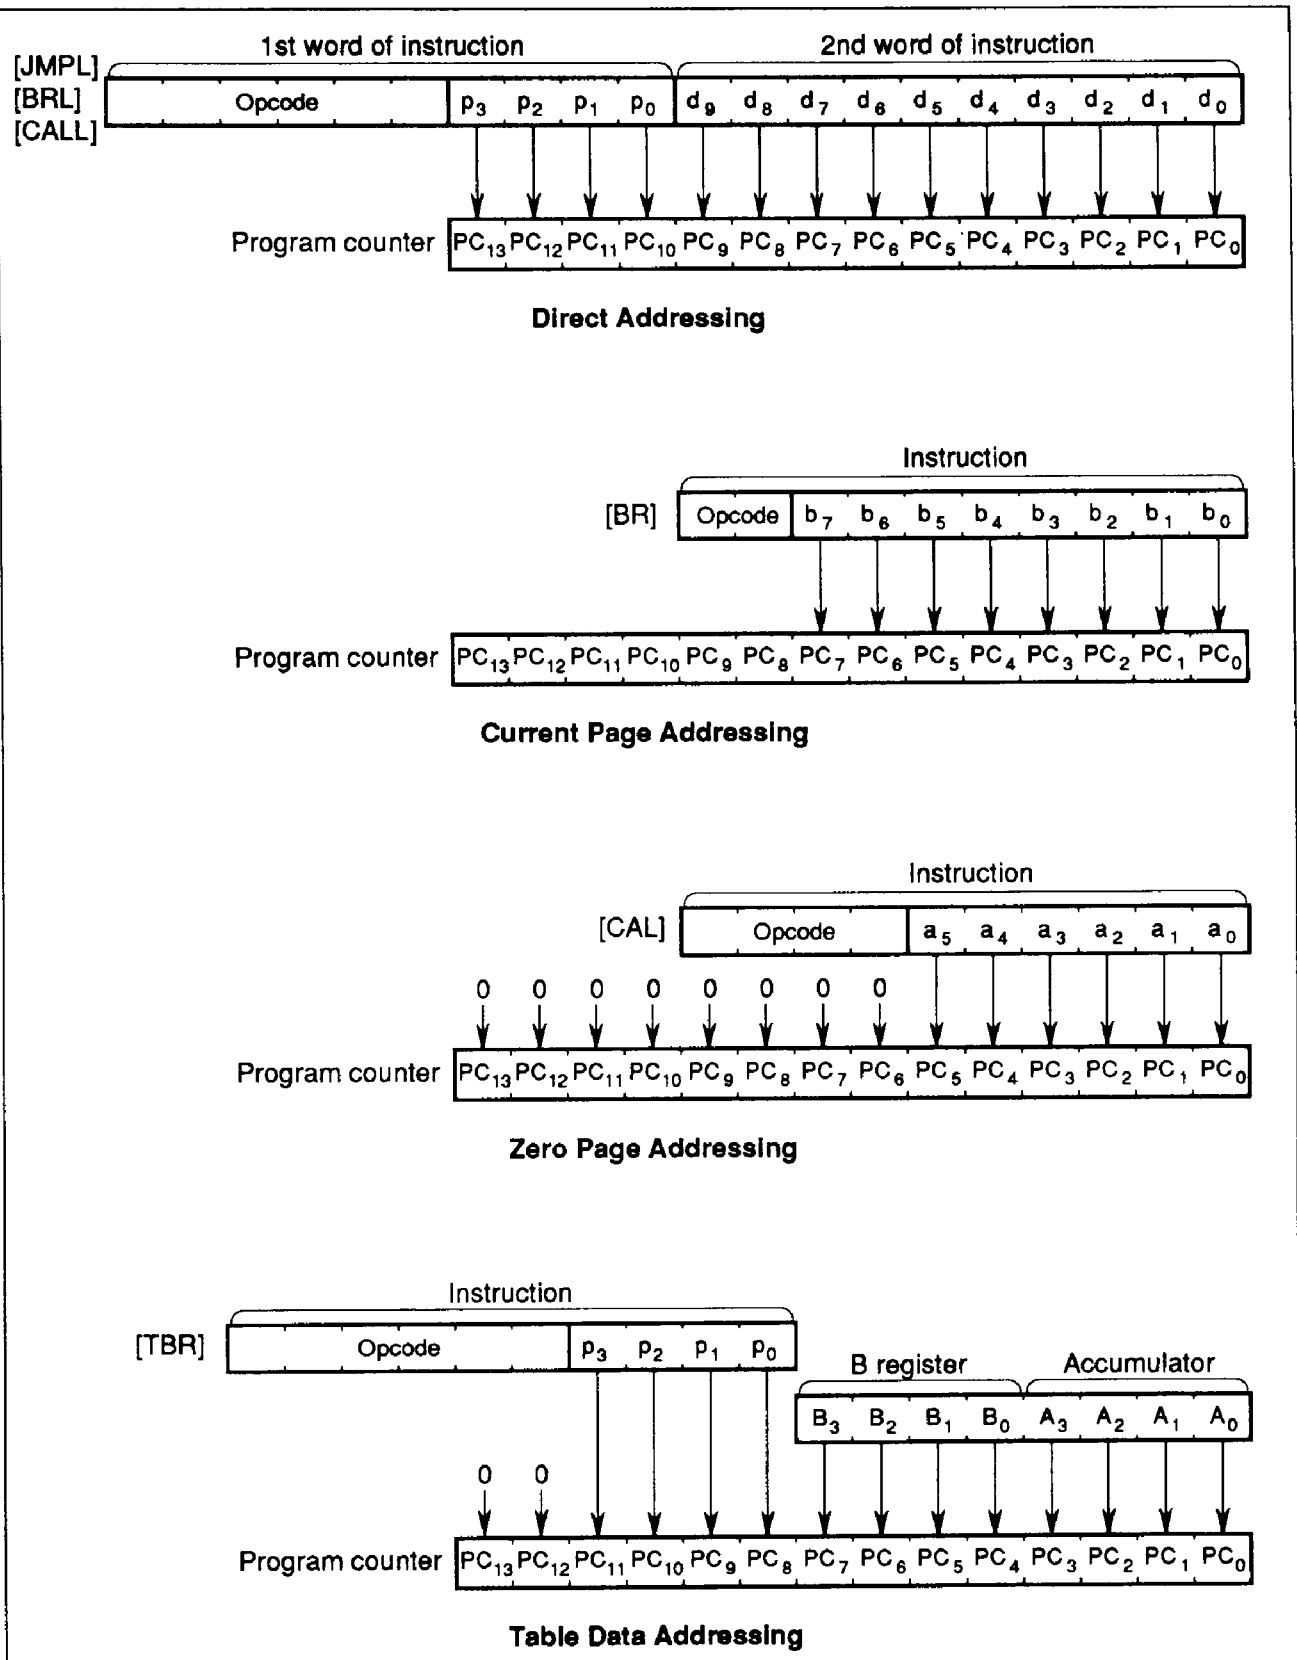
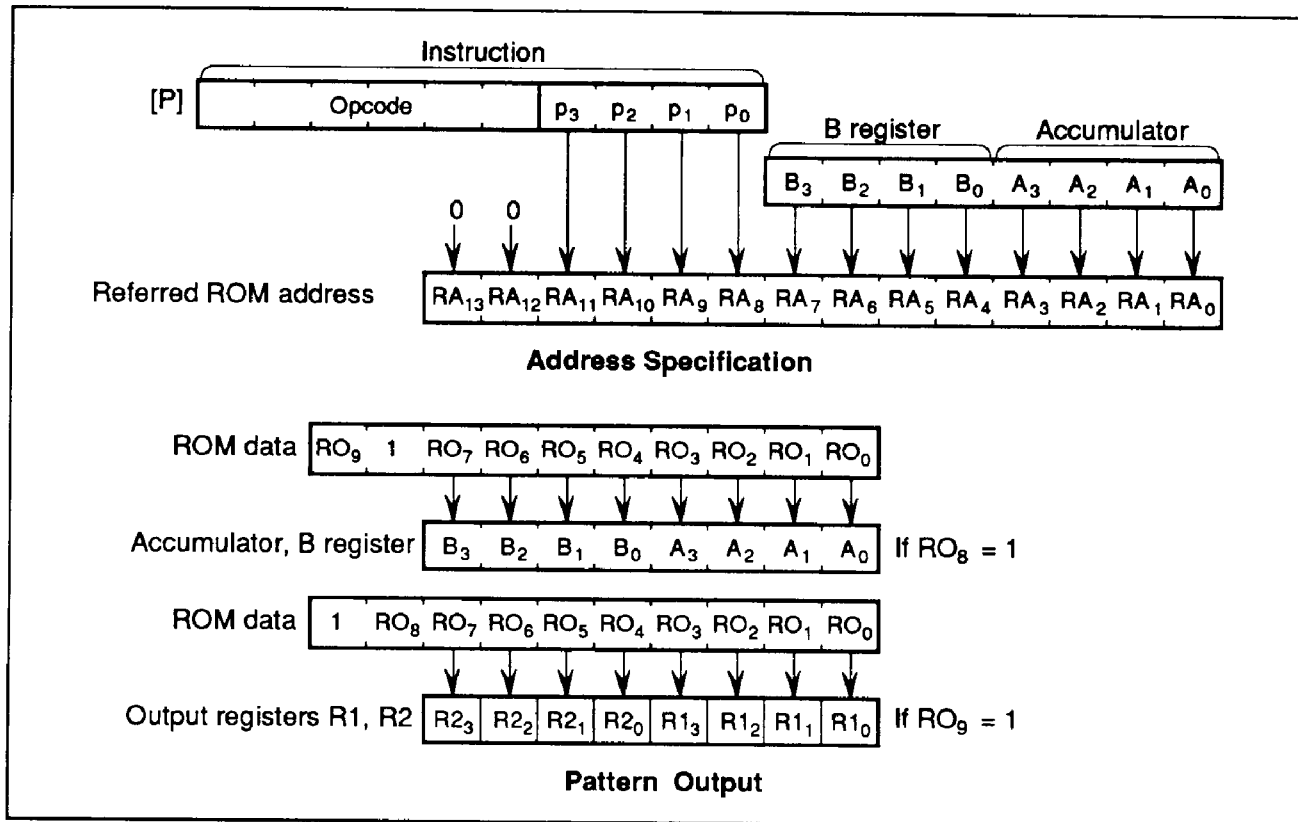

Figure 65 ROM Addressing Modes
Figure 66 P Instruction
The MCU has four ROM addressing modes, as shown in figure 65, and the P instruction shown in figure 66.
**P Instruction:** ROM data addressed in table data addressing mode can be referenced by the P instruction as shown in figure 65. If bit 8 of the ROM data is 1, eight bits of ROM data are written to the accumulator and the B register. If bit 9 is 1, eight bits of ROM data are written to the R1 and R2 port output registers. If both bits 8 and 9 are 1, ROM data is written to the accumulator and the B register, and also to the R1 and R2 port output registers at the same time.